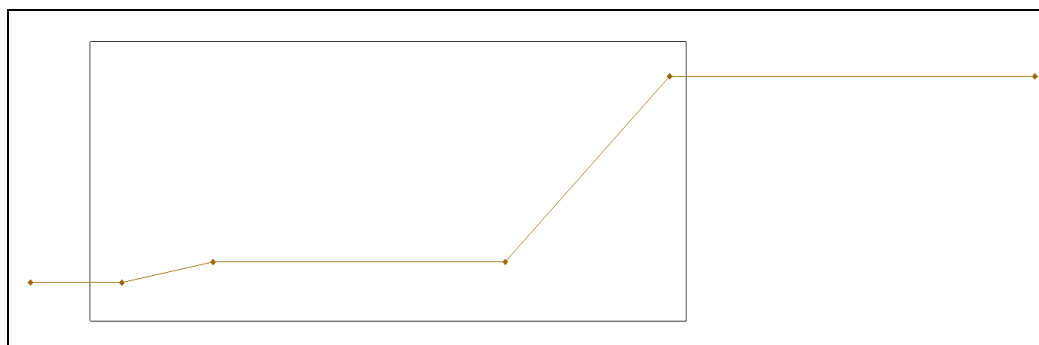

Figure 4. Selecting the interior nodes by dragging a box.
2. Drag a box around the four middle nodes, as shown in Figure 4 below.